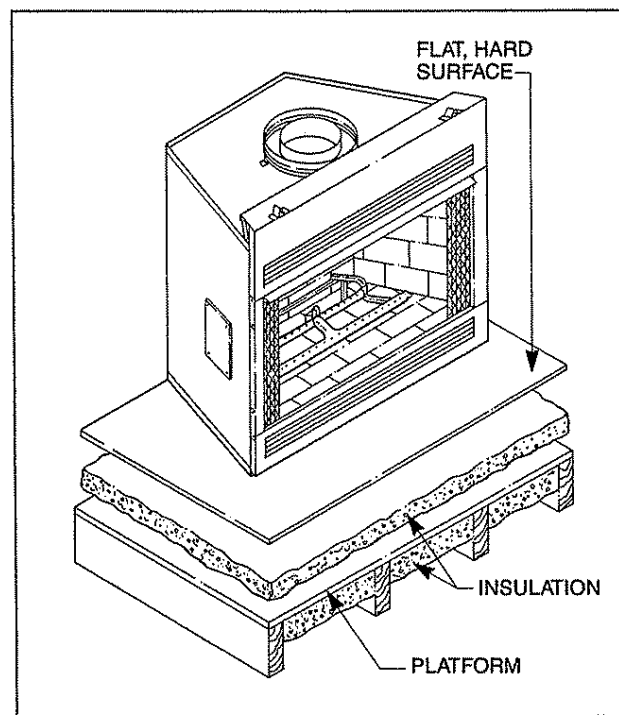

Fig. 15. Insulation between platform and fireplace.
Step 7. In cold climates, insulation of the enclosure around the fireplace is critical to avoid future problems with cold air. The following steps are suggested to minimize potential cold air problems. Insulate the base of the fireplace with a noncombustible insulation. This step is particularly important for outside wall installations over concrete slab floor construction. If a platform is used to raise the fireplace, the insulation should be placed on top of the platform before the fireplace is set. (See Fig. 15.)